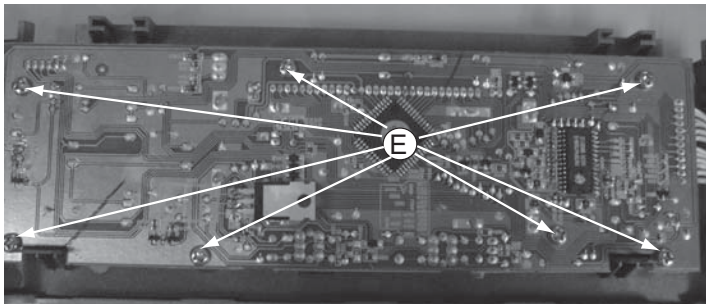

Figure 5
- 2) Loosen 7 screws "E" at the bottom of VFD board as shown in figure 5.